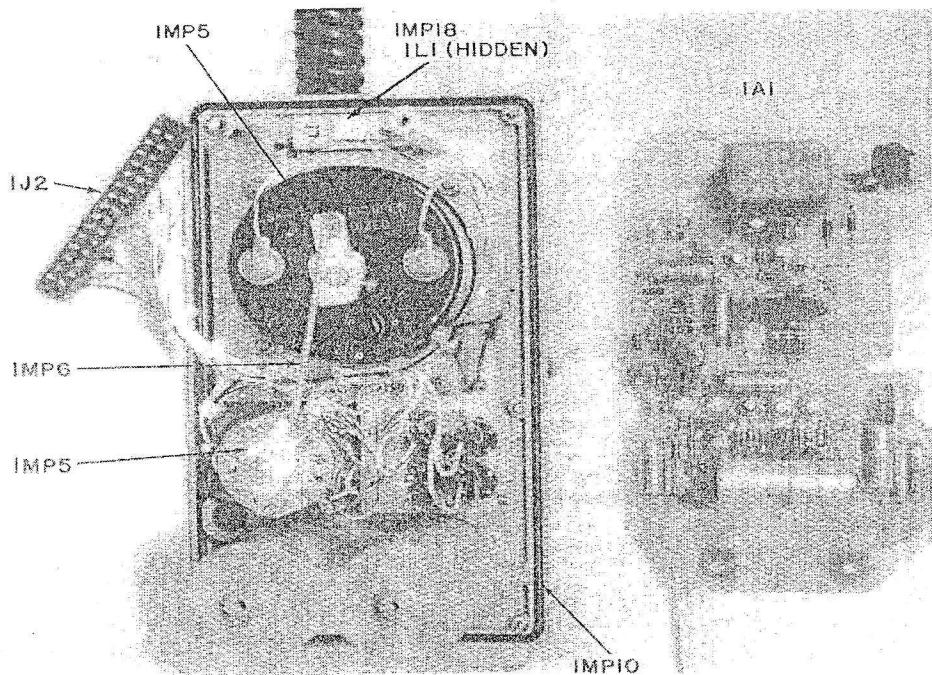

Figure 6-3 Rear view of Top Panel
B. Printed Circuit Board Removal and Replacement. See Figure 6-3.
C. Meter Replacement. See Figure 6-3
D. Meter Illumination Switch Replacement. See Figure 6-3
- 1) Remove meter mounting bracket as outlined in paragraph 6-2C(1) through (5).
- 5) Reassemble meter mounting bracket as outlined in paragraph 6-2, c. (8) though (11).
E. Range Switch Replacement. See Figure 6-3.
F. Meter Lamp Replacement. See Figure 6-3